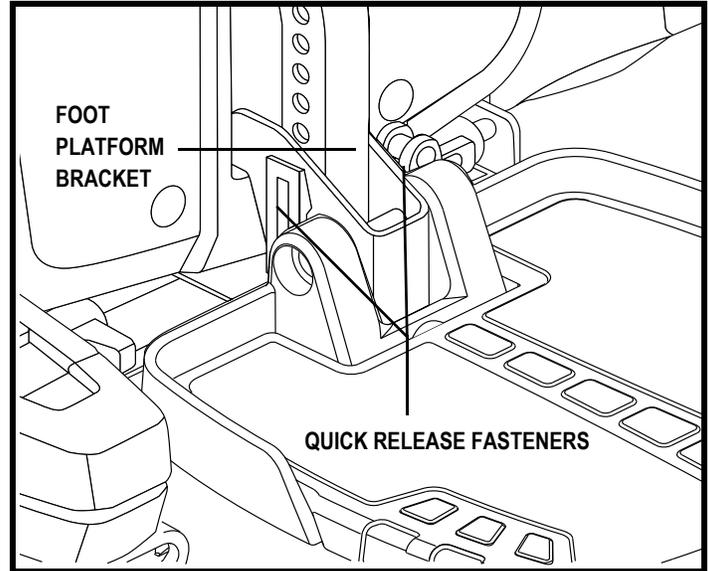
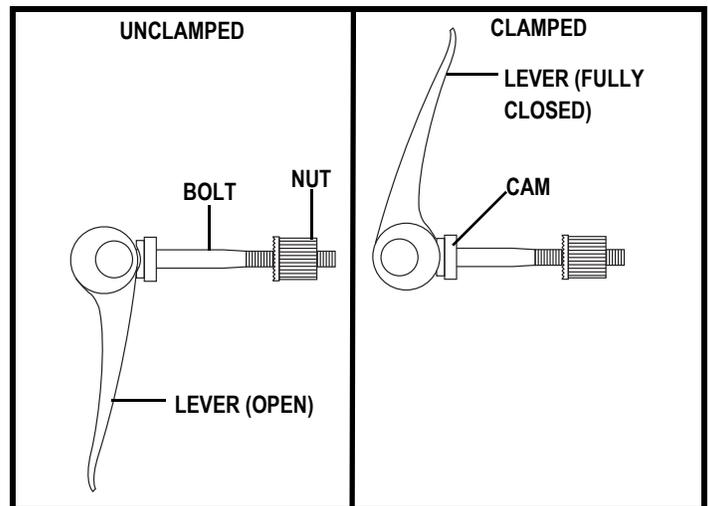

Figure 21. Foot Platform Adjustment
Figure 22. Quick Release Fastener Operation
1. Remove the quick release fasteners from the foot platform bracket. See figure 21.
Quick Release Fasteners: The foot platform is attached to the power base with two quick release fasteners. See figure 21. Each quick release fastener consists of a bolt, a lever, and a nut. See figure 22. The lever has a cam on the end that allows it to clamp into place. The quick release fastener has two states: clamped and unclamped. When the lever is open, the quick release fastener is unclamped. When the lever is closed, the quick release fastener is clamped.